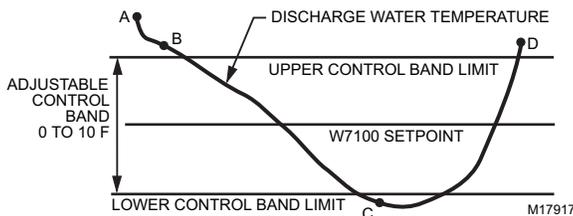

Fig. 6. Discharge water control algorithm operation.
The control band setting is centered on the discharge waters setpoint (see Fig. 6). The control band setting is adjustable from 0 to 10°F (0 to 6°C). This adjustment is used to stabilize system operation.
1. Using Fig. 6 and beginning at point A, the discharge water temperature is above the upper control band limit and the minimum OFF time has elapsed (selectable either 30 or 60 seconds, using fast response input).